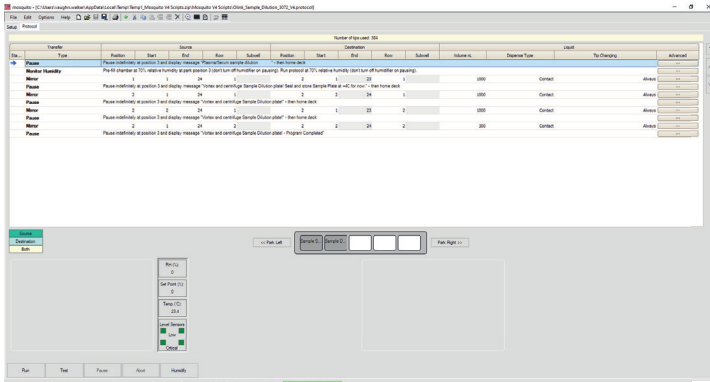

Figure 26. Pop-up window during Mosquito dilution protocol.
7. When the Mosquito® protocol is paused and a pop-up window appears on the screen (Figure 26), remove the Sample Source Plate and the Sample Dilution Plate from the Mosquito® deck and from the magnetic clamp boosters.